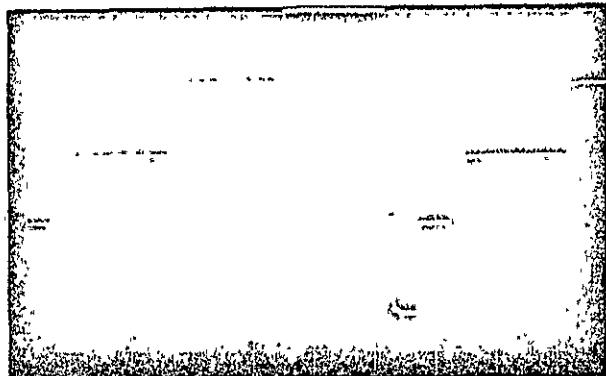

Figure 3-10. INTERLEAVER V/A OUT 1 or 2. Three-step test signal with interleaved audio.
6. Adjust front panel INTERLEAVER V/A OUT 1 LEVEL control for a 1 V pp signal at the INTERLEAVER V/A OUT 1 test jacks (refer to Figure 3-10). Observe the PAM pulse (Audio Modulation) is as shown in Figure 3-10.